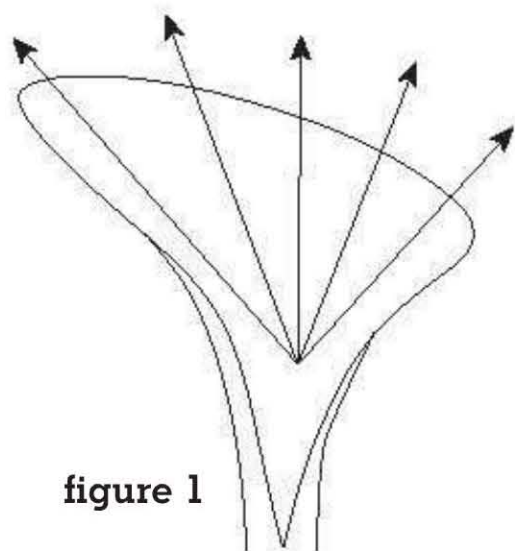

figure 1
6. Using the wide end of the hammer, start to splay the flattened end of the rod like a fan, keeping one corner of the hammer stationary but changing the horizontal angle of the hammer blows (see figure 1). File the end to create a diagonal. If needed, anneal the rod during this process to prevent any cracks from occurring.